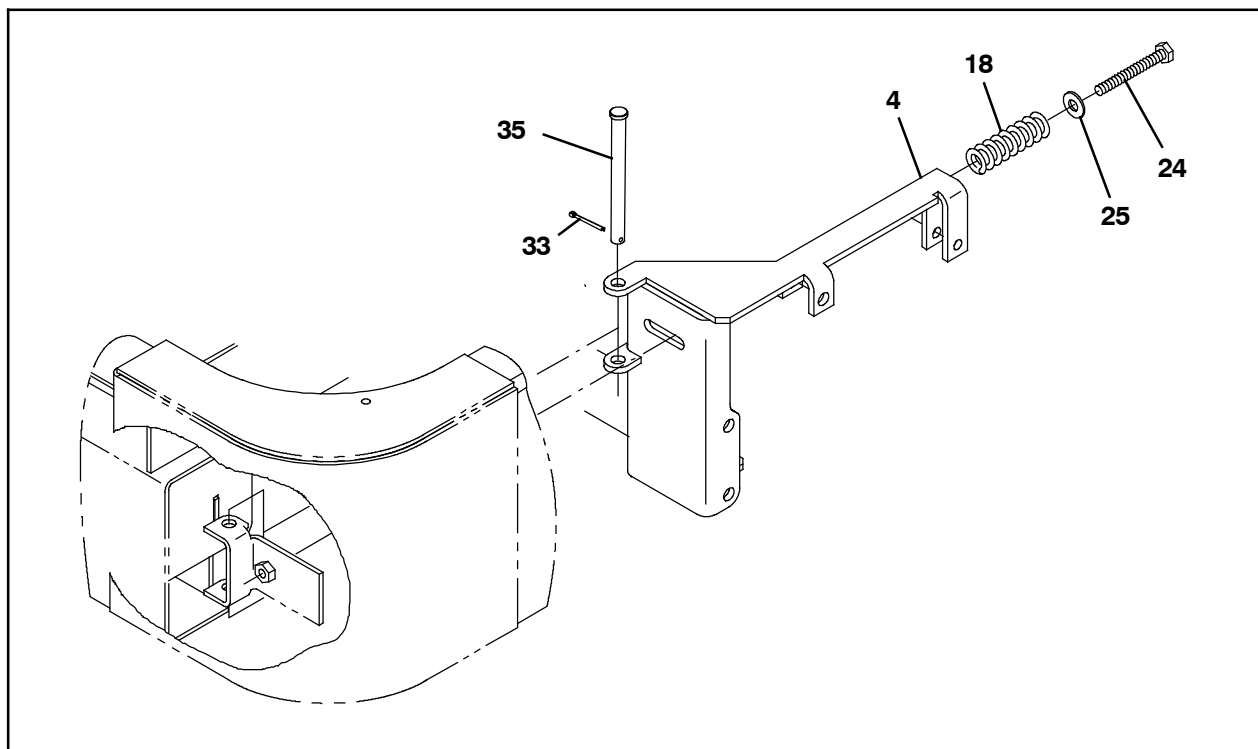

FIG. 5
14. Use a clevis pin (35) and cotter pin (33) to install the left brush assembly onto the front bumper. (Fig. 5)
15. Use a hex screw (24) and a flat washer (25) to install the 2.5 in. (63.5 mm) spring (18) onto the frame of the machine. (Fig. 5)